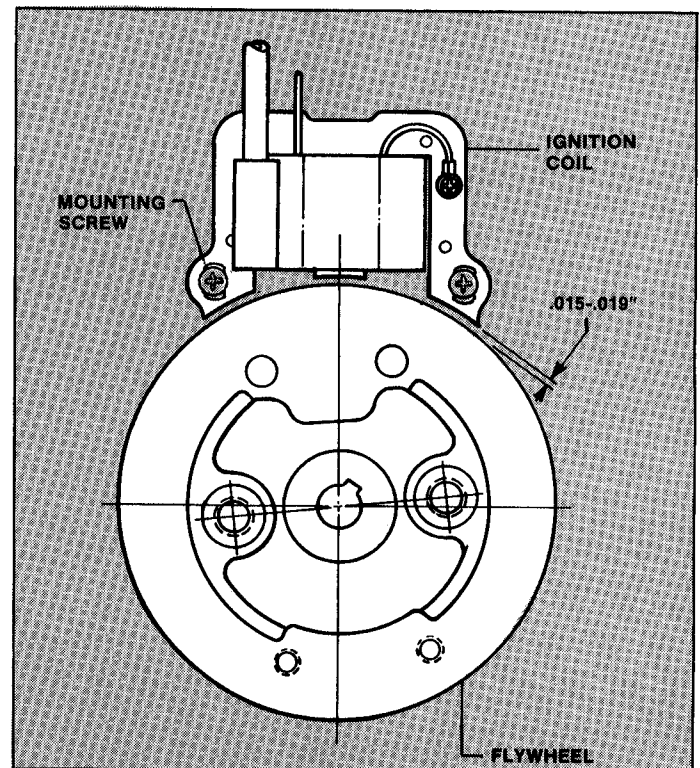

FIGURE 2.31
- (c) Adjust coil up or down until the air gap measures .015" - .019". See Figure 2.31.